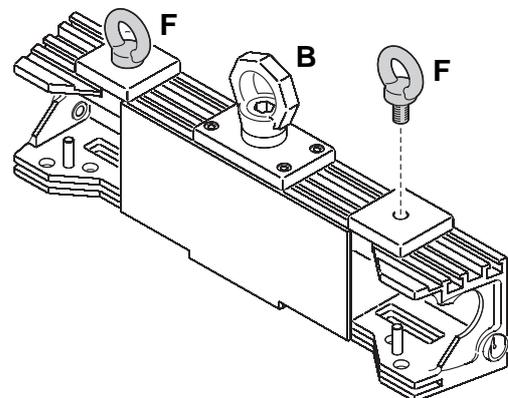

Figure 4: Additional eyebolts
- See Figure 4. Obtain M12 threaded eyebolts **F** (not supplied) that are approved as a suspension point for the total weight they will have to support. Fasten two eyebolts securely into the threaded holes in each Header as illustrated and use these as suspension points for the Header.